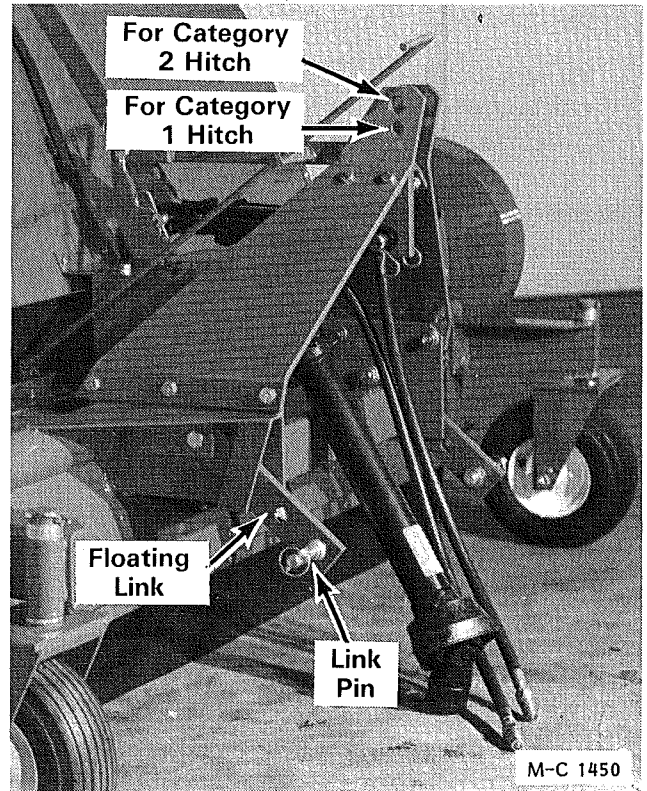

Figure 10
2. Connect the tractor hitch top (3rd) link to the mower hitch bracket. The top hole in hitch bracket is for tractors with a category 2 hitch and the bottom hole is for tractors with a category 1 hitch, see Figure 10.